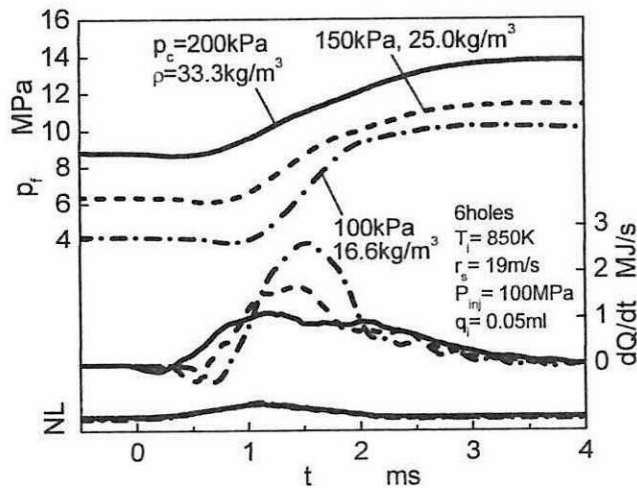

FIGURE Q4 (a)
- Q4** (a) **Figure Q4(a)** shows the influences of turbocharger that increasing the air density in combustion chamber. As seen in Figure 1 (a), it clearly illustrate the histories of combustion pressure p_f and heat release rate dQ/dt together with nozzle needle lift NL against time, t from start of injection. Explain the influences of the changes of ambient density on combustion process. (5 marks)
- (b) Explain the operation of catalytic converters and how are they helpful in reducing HC, Carbon Monoxide (CO) and NOx emissions. Construct the catalytic converters configuration. (5 marks)